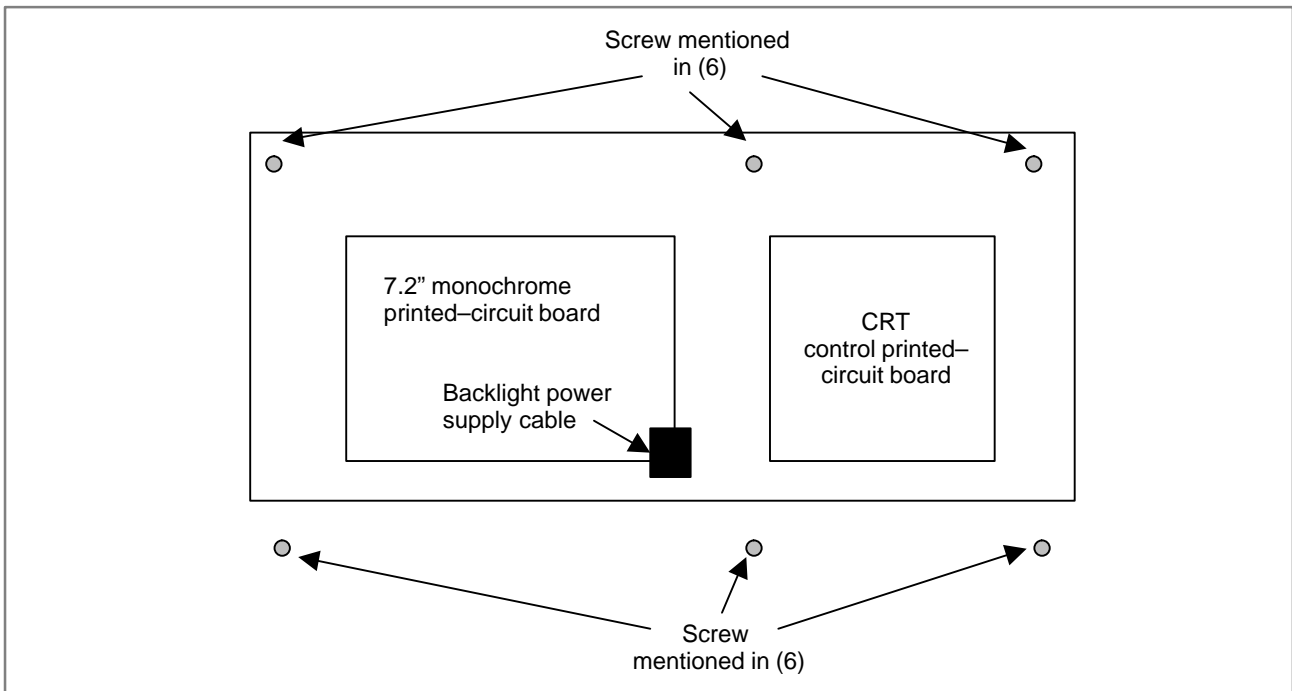

Fig. 2.9.2 Rear view of the detachable-LCD metal plate
- (1) Turn off the power to the detachable LCD/MDI, and wait for a while.
- (2) Remove the 8 screws from the front panel of the detachable LCD/MDI, and then take out the metal plate on which the LCD and keyboard are mounted. (Be careful because the metal plate is connected with main unit with cables.)
- (3) Remove the backlight power supply cable. (See Fig. 2.9.2.)
- (4) Remove the CRT control printed-circuit board. (4 screws)
- (5) Remove the PCR connector and the 10-pin flat cable, which were under the CRT control printed-circuit board before it was removed.
- (6) Remove the 6 ornamental plate fastening screws. (See Fig. 2.9.2.)
- (7) Remove the ornamental plate to expose the front surface of the LCD.
- (8) The manufacturer of the LCD can be identified by the way its backlight lid is mounted.